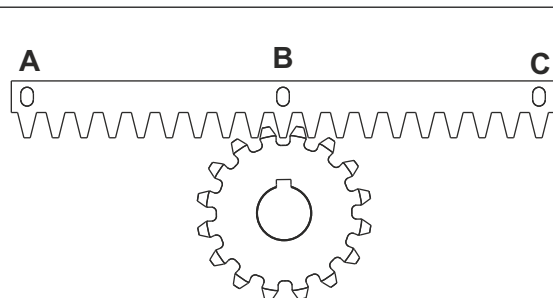
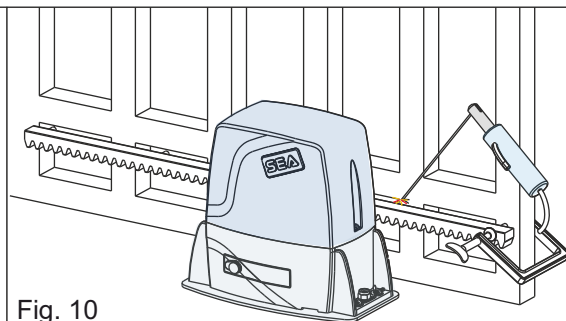

Fig. 9
Fig. 10
5.3. Lean the gear rack element on the toothed pinion of the operator in parallel to the ground slideway of the gate, as shown in Fig. 9 and electrically weld the central pawl **B** to the gate structure (Fig. 10). Manually move the gate until pawl **C** is placed in front of the pinion and fix it through electric welding. Repeat the same procedure for pawl **A** after having placed it in front of the pinion;